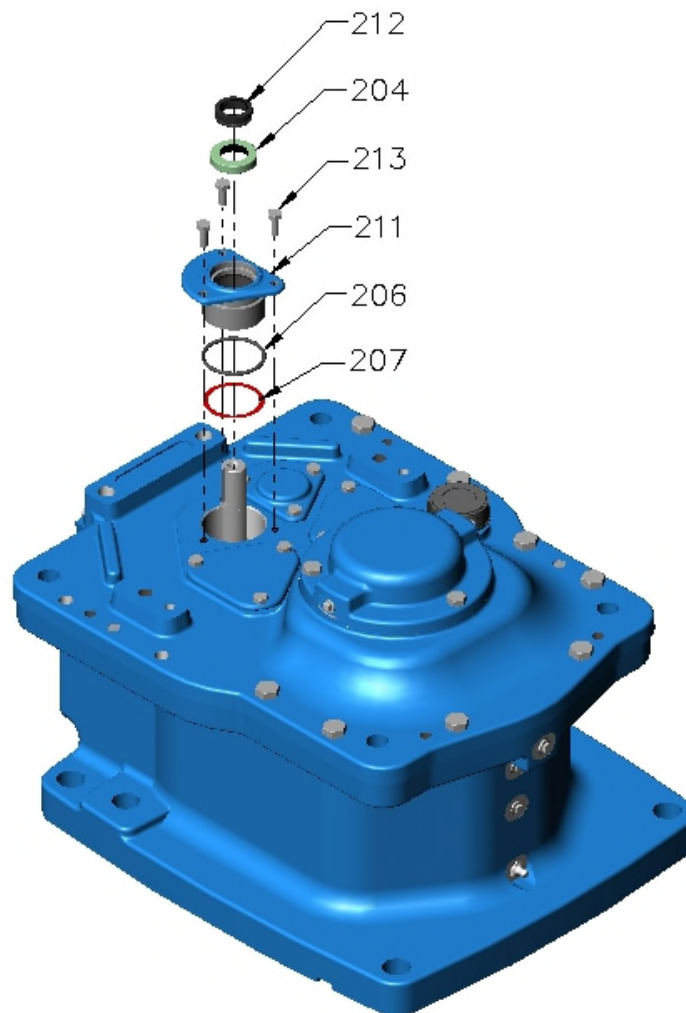

Figure 2 – Input Cap
- B. At input shaft, remove the following items (refer Figure 2):